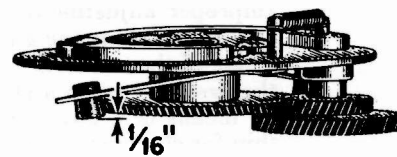

Figure 4—Adjustment of damper pads
- (c) Improper Adjustment of the Damper Pads. The damping pads with the necessary springs are provided to place a load on the $33\frac{1}{3}$ R.P.M. driving gear at all times while it is in operation. Placing such a load on the gear takes up any possible play and reduces the possibility of a "wow" during operation at the slower speed. Adjust these pads by slipping each spring to one side and bend them until they are $\frac{1}{16}$ " beyond the opposite surface upon which they rest. (See Figure 4).